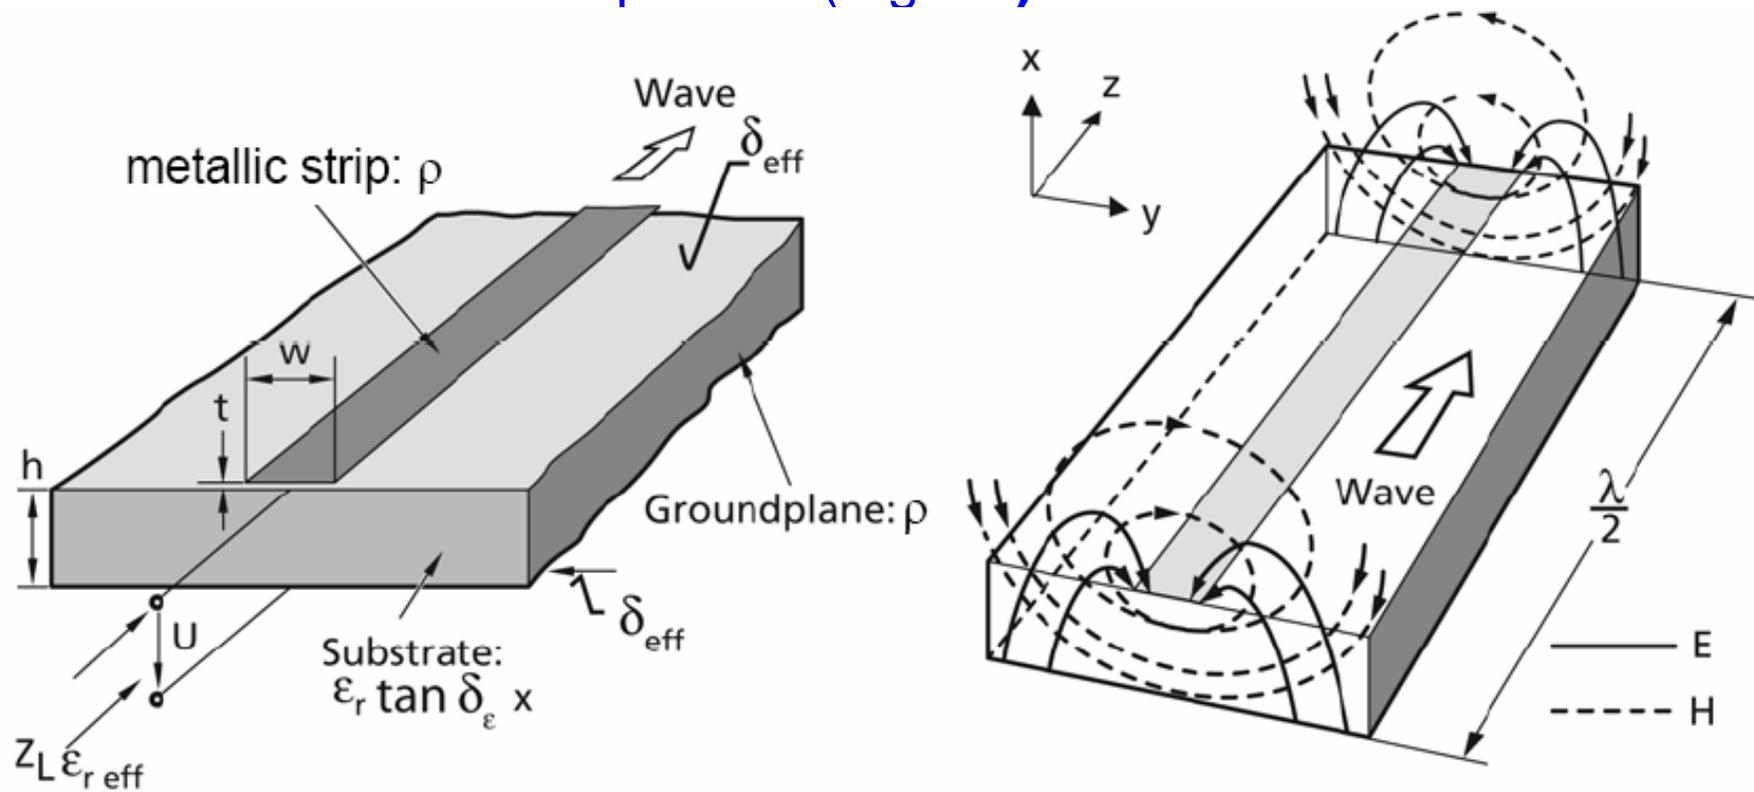
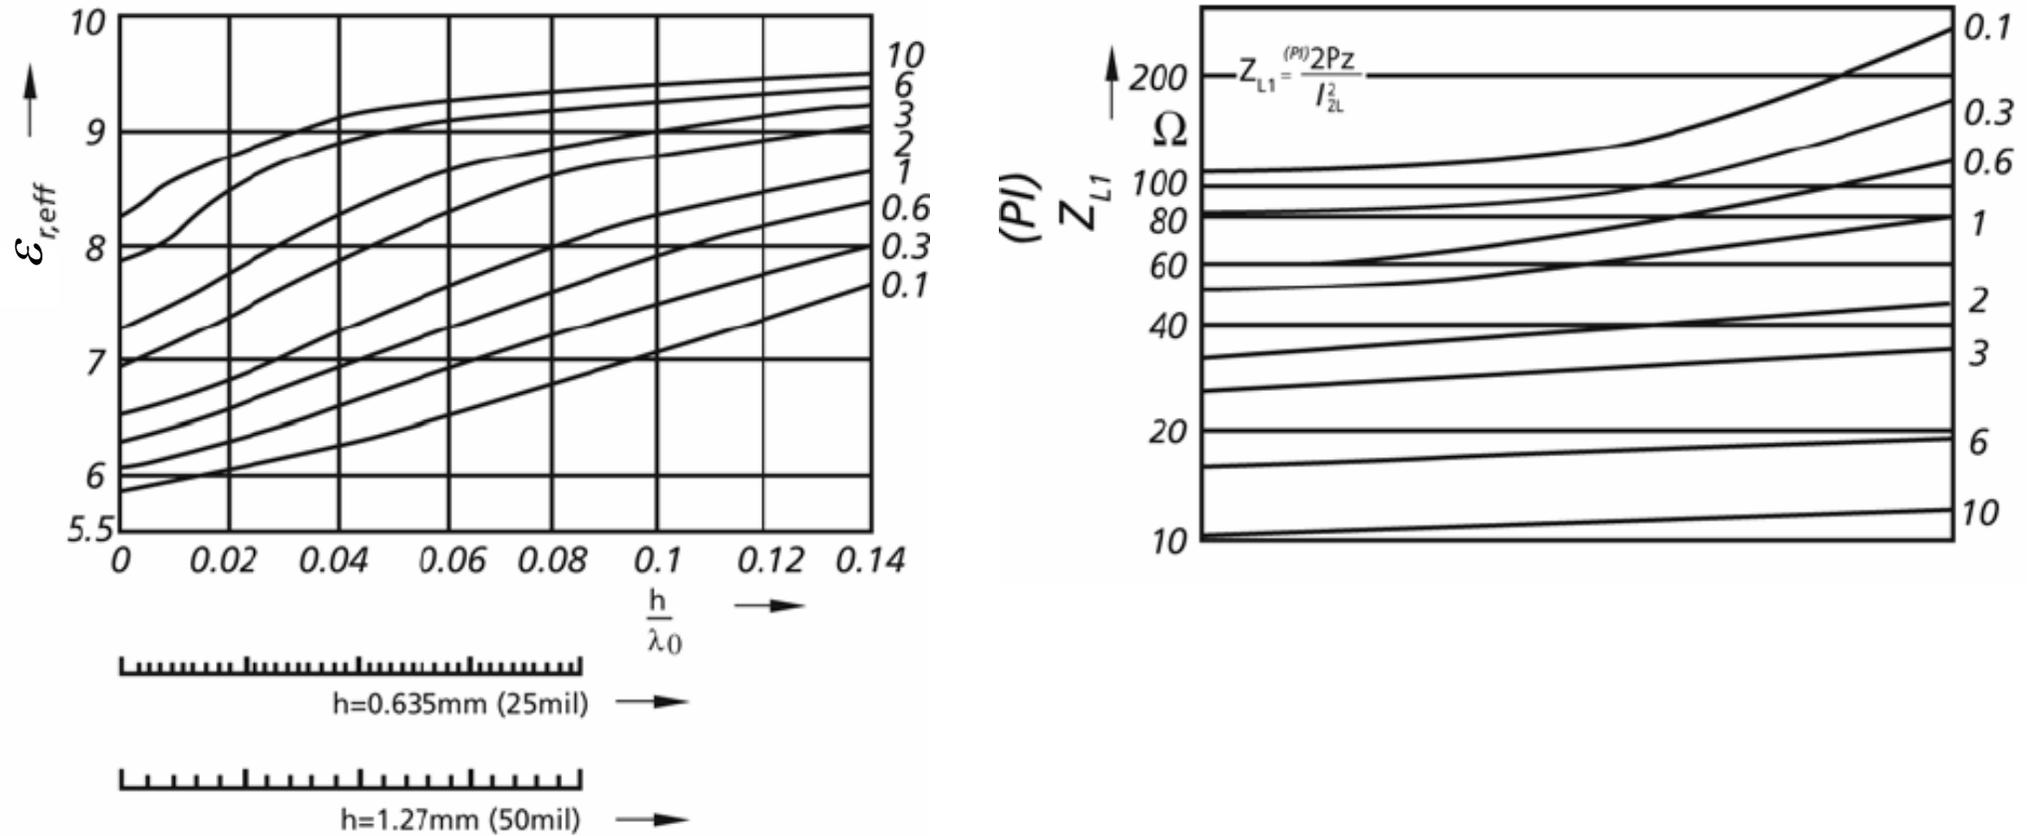

Fig.23 Microstripline: left: Mechanical construction, right: static field approximation [16].
Fig. 24: Characteristic impedance (current/power definition) and effective permittivity of a microstrip line [16]
- ◆ A microstripline may be visualized as a stripline with the top cover and the top dielectric layer taken away (Fig. 23). It is thus an asymmetric open structure, and only part of its cross section is filled with a dielectric material. Since there is a transversely inhomogeneous dielectric, only a quasi-TEM wave exists. This has several implications such as a frequency-dependent characteristic impedance and a considerable dispersion (Fig. 24).